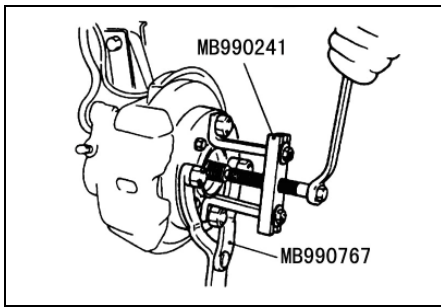

Fig.12-7
(4)Drive shaft removal(see Fig.12-7)